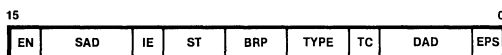

Figure 27. Transaction Descriptor Register
**Transaction Descriptor Registers.** These four 16-bit registers, one for each channel (Figure 27), describe the type of DMA transfer to be performed and contain control and status information.